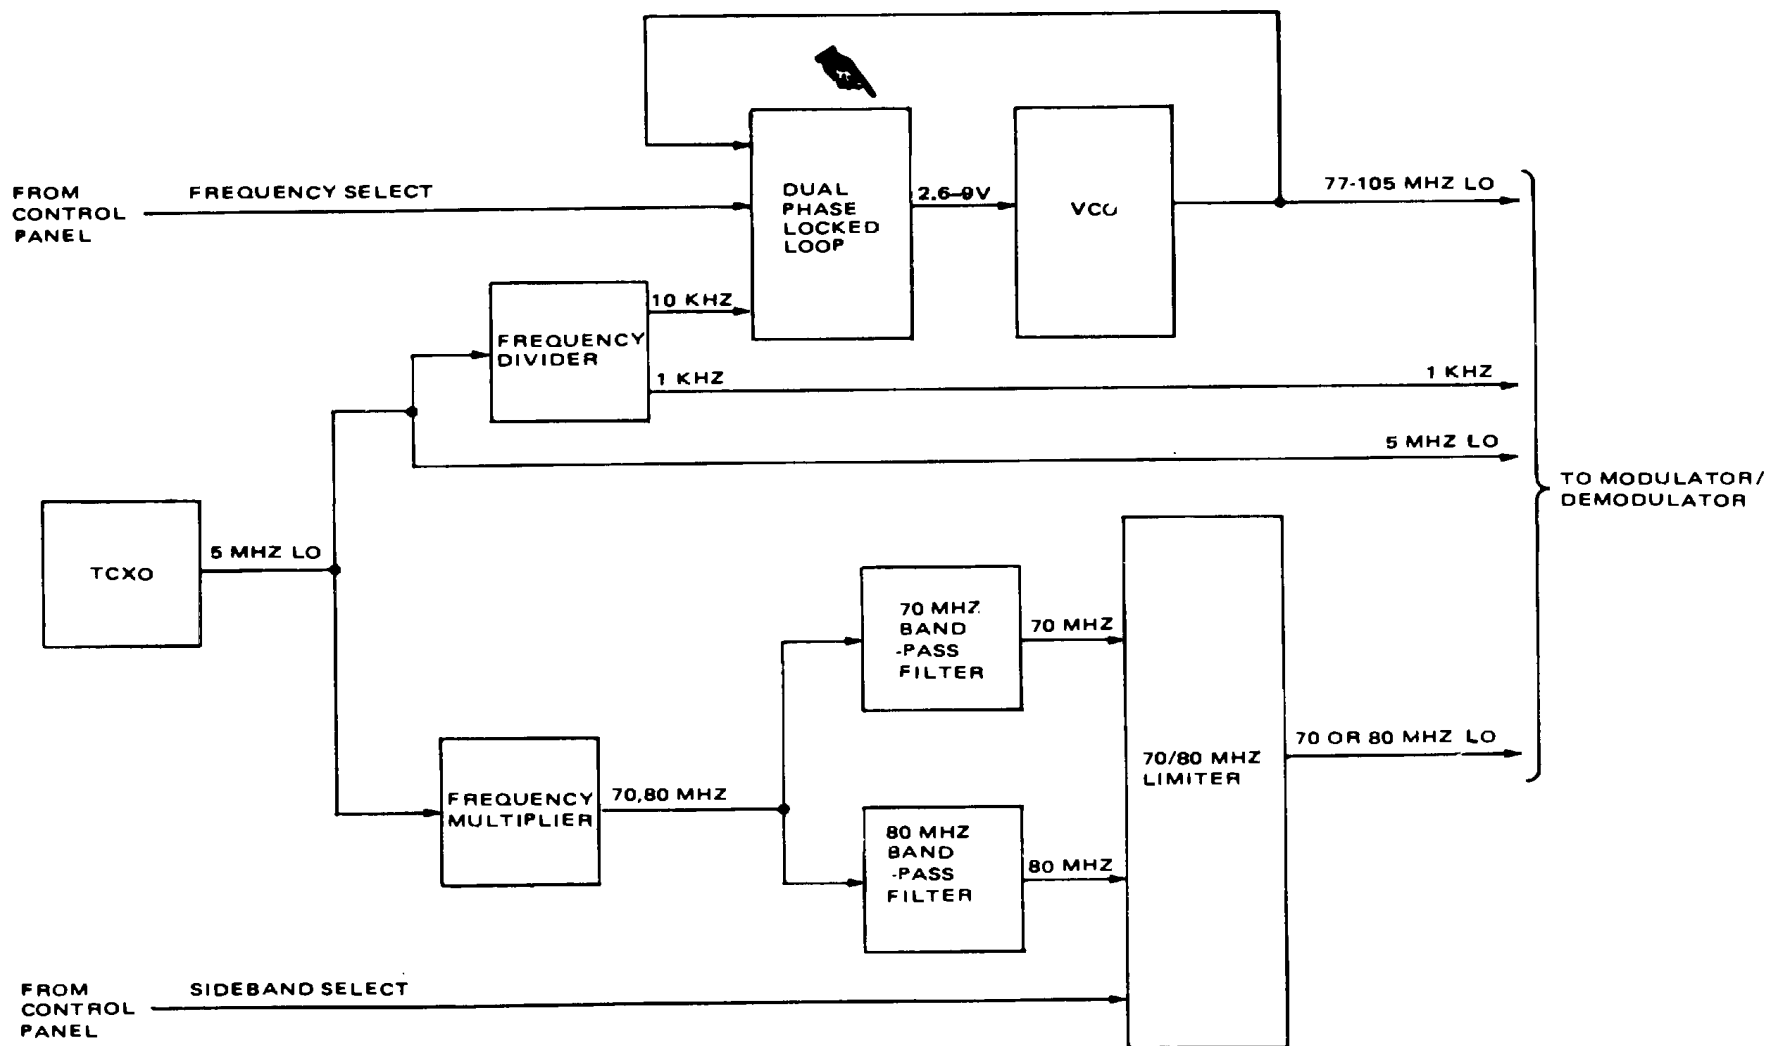

Figure 3-5. Synthesizer Block Diagram
**3-28. SYNTHESIZER (Figure 3-5).** The synthesizer generates three sinusoidal LO signals which are used by the modulator/demodulator. All of the frequencies generated by the synthesizer are referenced to a temperature-compensated crystal oscillator (TCXO), which is the frequency standard for the radio set. Because the TCXO is temperature-compensated over a -46 to +71 °C range, the Xmt RB" frequency will not